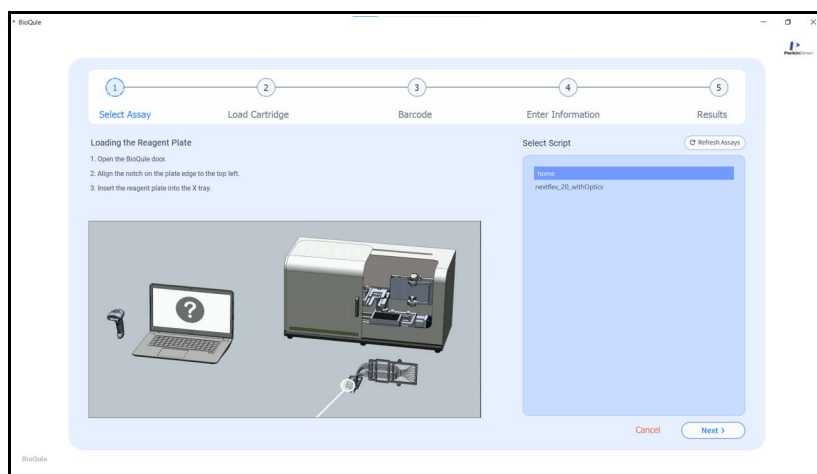

Figure 13. Select Assay Window
- 1 Click the **Start New Run** button. The Select Assay Window opens as shown in Figure 13.